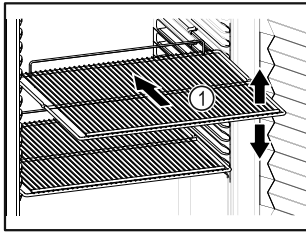

Fig. 59 Example illustration
- If there are adjustable shelves Fig. 59 (1), position them as required.